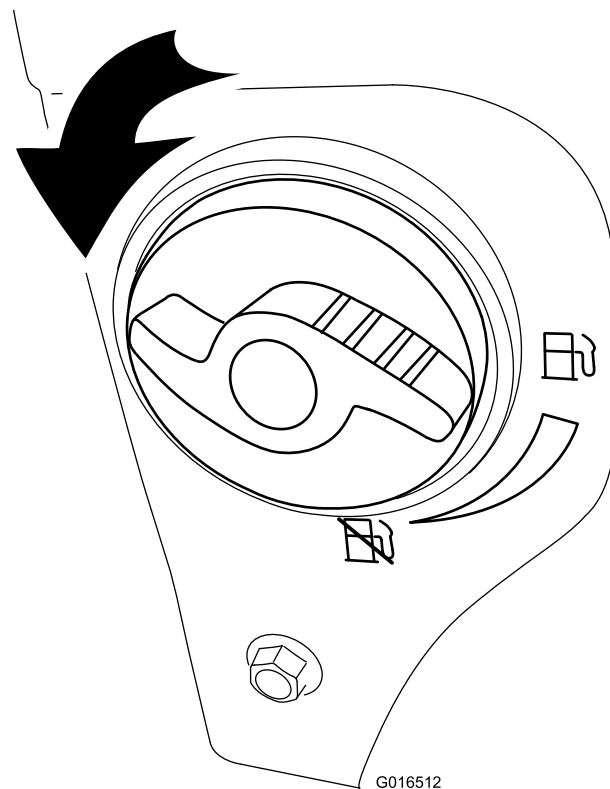

Figure 20
2. Turn the fuel-shutoff valve 1/4 turn counterclockwise to open it (Figure 20).